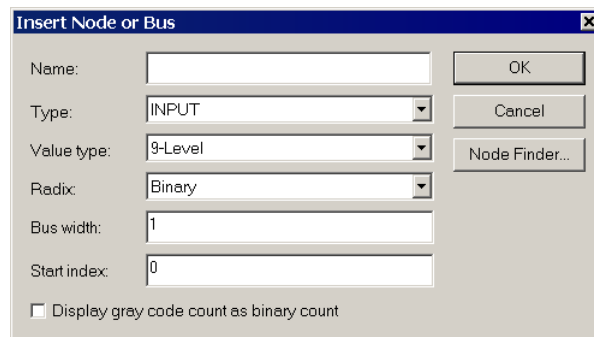
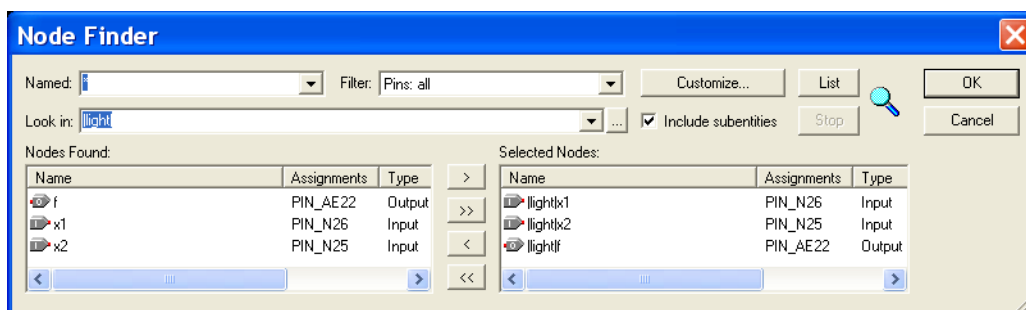
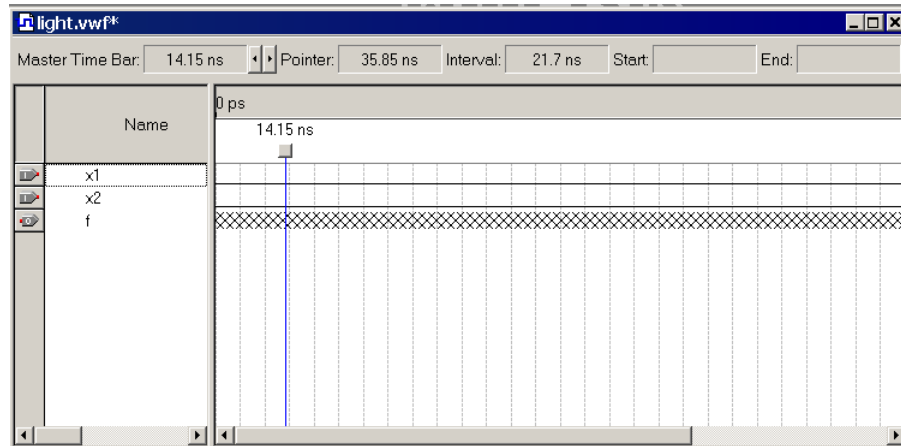

Figure 36. The Insert Node or Bus dialogue.
Figure 37. Selecting nodes to insert into the Waveform Editor.
Figure 38. The nodes needed for simulation.
- Next, we want to include the input and output nodes of the circuit to be simulated. Click **Edit > Insert Node or Bus** to open the window in Figure 36. It is possible to type the name of a signal (pin) into the Name box, but it is easier to click on the button labeled **Node Finder** to open the window in Figure 37. The Node Finder utility has a filter used to indicate what type of nodes are to be found. Since we are interested in input and output pins, set the filter to **Pins: all**. Click the **List** button to find the input and output nodes as indicated on the left side of the figure.
Click on the  $x1$  signal in the Nodes Found box in Figure 37, and then click the  $>$  sign to add it to the Selected Nodes box on the right side of the figure. Do the same for  $x2$  and  $f$ . Click **OK** to close the Node Finder window, and then click **OK** in the window of Figure 36. This leaves a fully displayed Waveform Editor window, as shown in Figure 38. If you did not select the nodes in the same order as displayed in Figure 38, it is possible to rearrange them. To move a waveform up or down in the Waveform Editor window, click on the node name (in the Name column) and release the mouse button. The waveform is now highlighted to show the selection. Click again on the waveform and drag it up or down in the Waveform Editor.